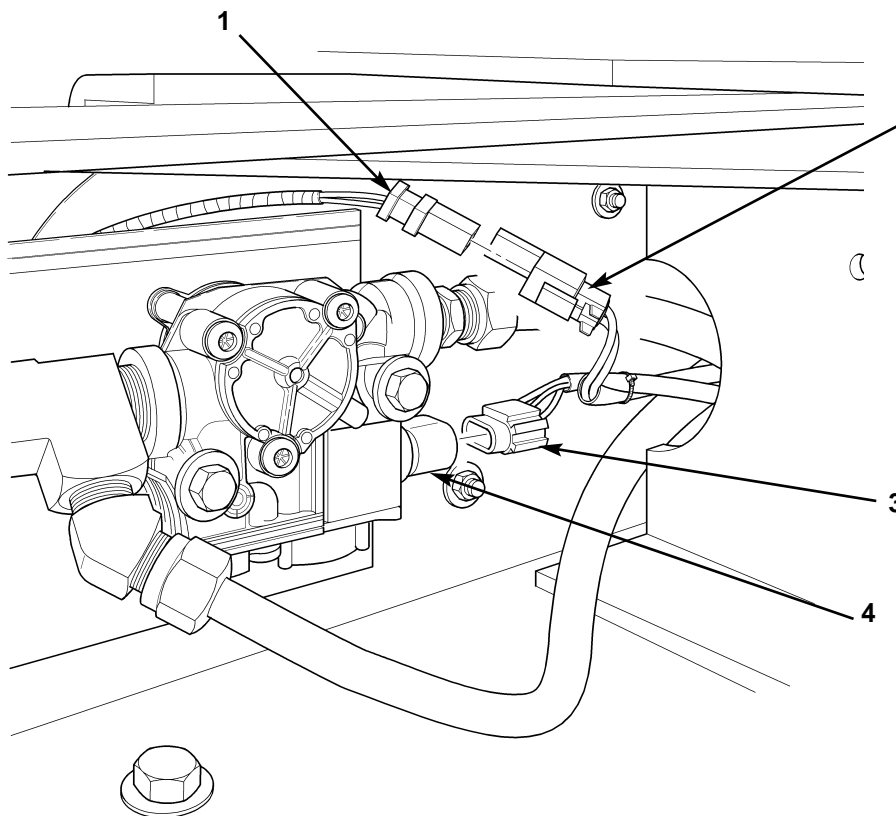

Figure 2. Disconnecting Rear Wheel Sensor and Modulator Harnesses.
3. Disconnect left rear wheel sensor cable plug (figure 2, item 1) from left rear wheel sensor harness connector (figure 2, item 2).
4. Disconnect left rear modulator harness plug (figure 2, item 3) from left rear modulator receptacle (figure 2, item 4).